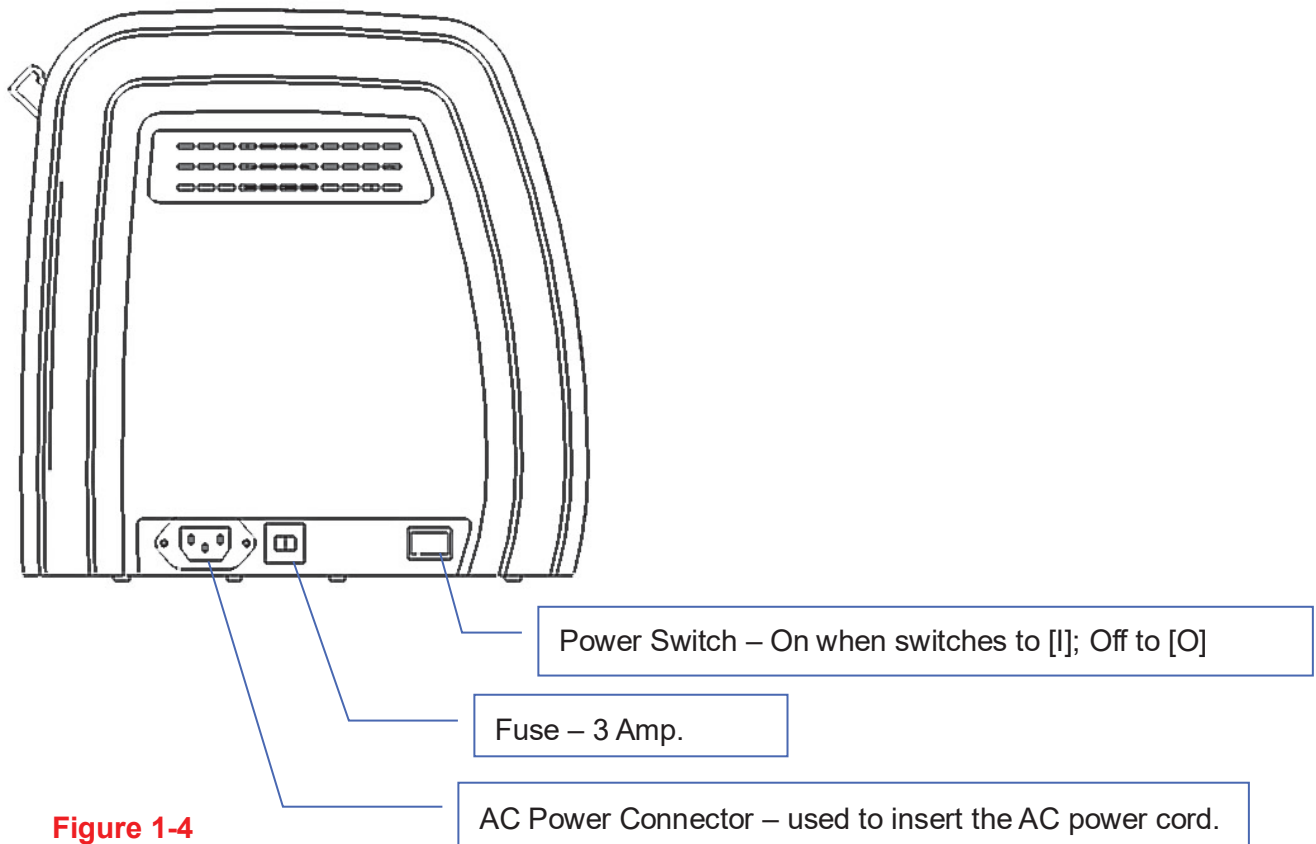

Figure 1-4
1.4.4 The Left-hand Side (Figure 1-4)